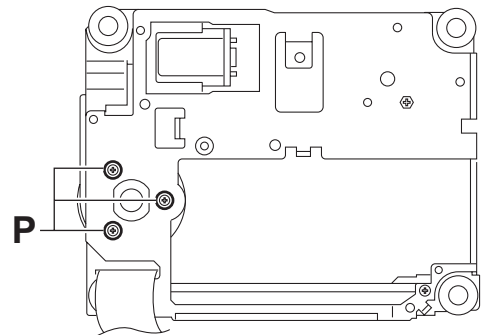

Fig.16
- (4) From the bottom side of the DVD traverse mechanism assembly, remove the three screws **P** attaching the spindle motor board. (See Fig.16.)